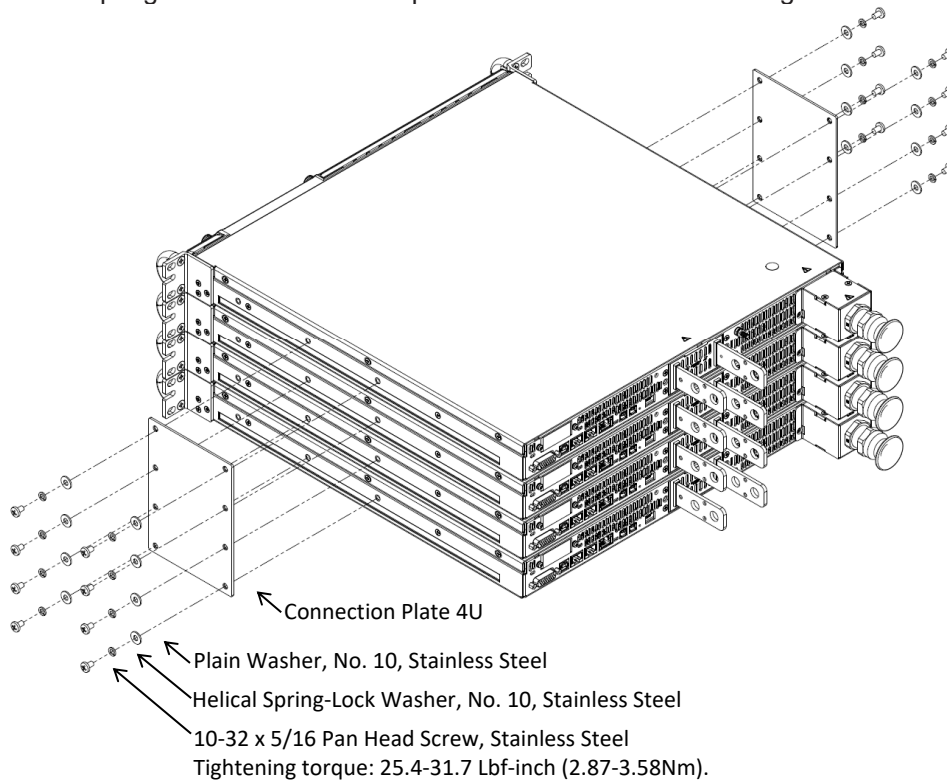

Figure 1: Four 10V-40V Units Connection Plates 4U Assembly
1. Attach connection plates, one on each side of the power supplies, using 16 pan head screws, 16 helical spring-lock washers and 16 plain washers as illustrated in Figure 1.